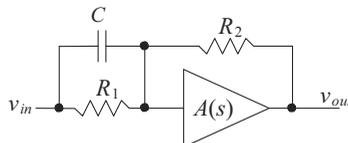

Figure 31.69 Amplifier used in problem 31.33.
31.33 Using the circuit shown in Fig. 31.69 and the *RR* method, find a value of R_1 and A_o which will cause the phase margin to equal 45° at $\omega = 8,000$ rad/sec. The amplifier can be modeled as having an infinite input impedance and zero output resistance and has a frequency response of